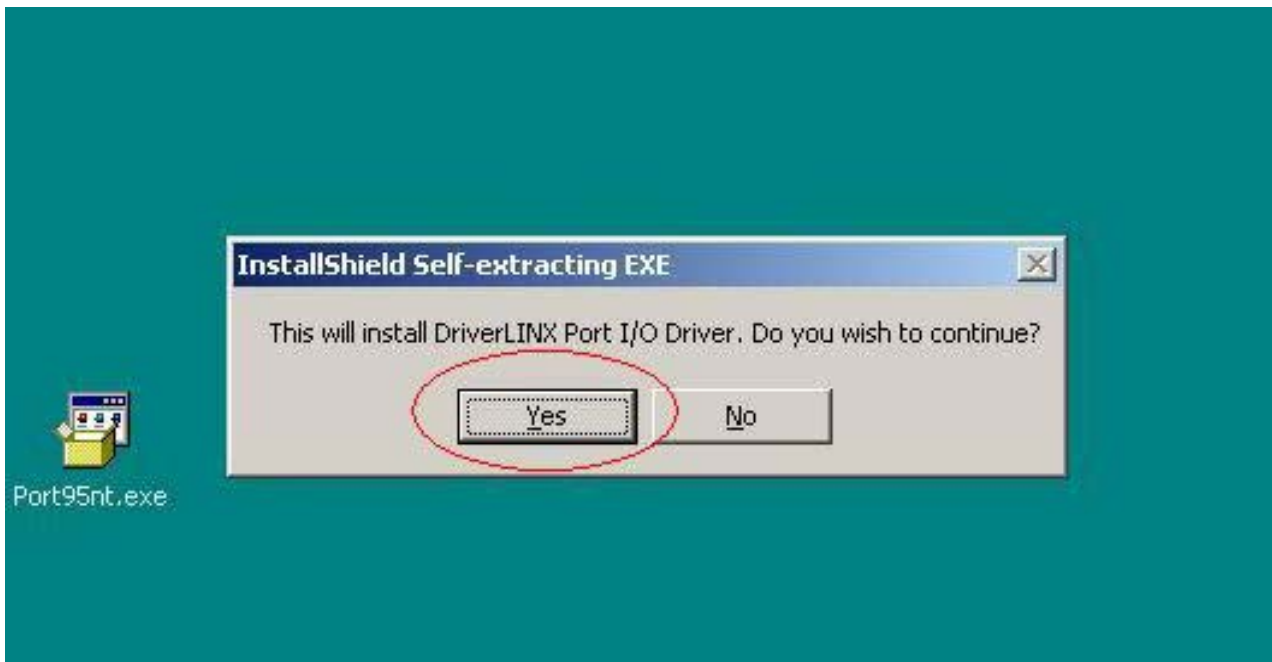

Fig 0.1
2. Double-click the “ PORT95NT.exe” in Windows & install the program. , see Fig 0.1